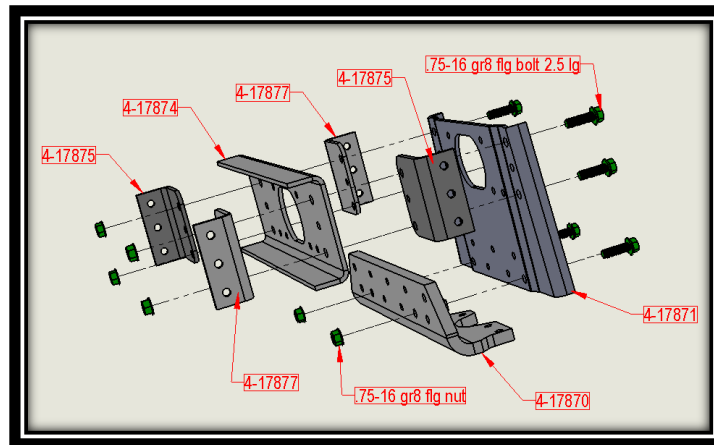

FIG. 9-1
16. Install parts shown below in frame and tighten, but do not torque. Use angle brackets 4-17875 & 4-17877 as a fixture to locate and mark (12) .656 dia holes on frame rail. Refer to FIG. 9-1.